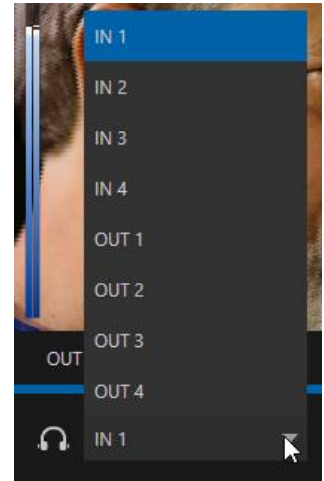

FIGURE 29
1. The audio source supplied to the *Headphone* jack can be selected using the menu next to the *headphone icon* (Figure 29).